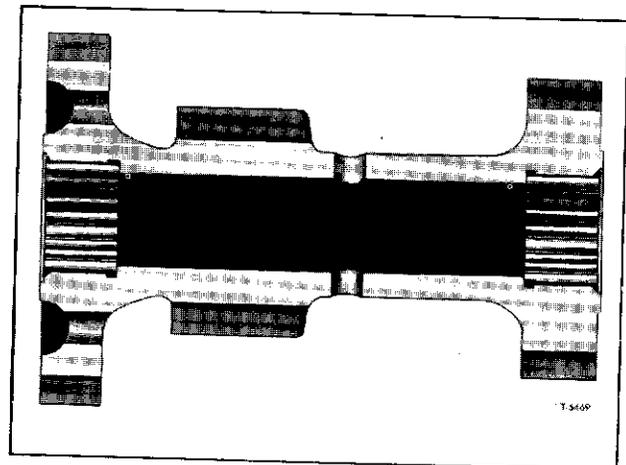
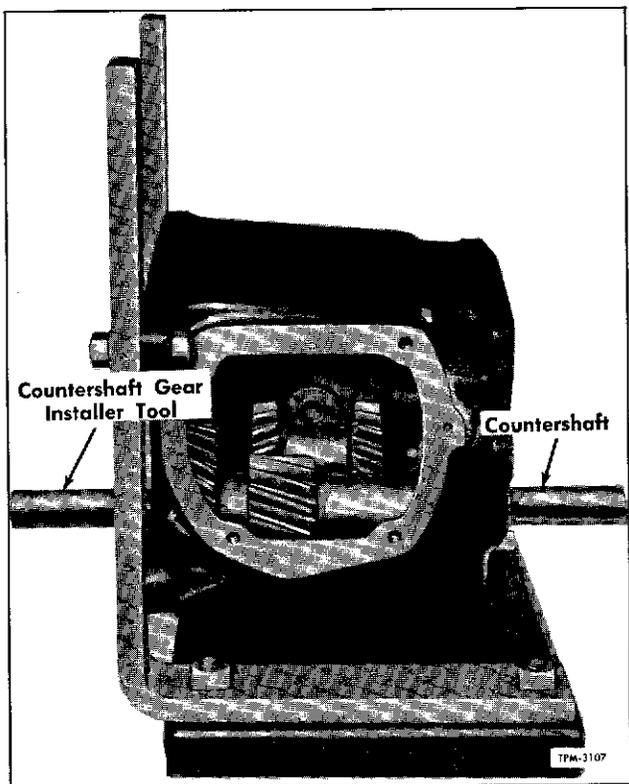

Figure 13—Roller Bearing Countergear
Figure 14—Installing Countershaft and Gear
1. Apply clean heavy grease in counterbore at each end of countershaft gear (37); then arrange 25 bearing rollers (36) in each counterbore. The grease should hold the rollers in place while installing (fig. 13).
2. Insert the countershaft and bearing assembly tool (J-1617) in the countergear (37).
3. Apply grease to countergear thrust washers (35) and place one at each end of the countergear.
5. Lubricate and insert the countershaft (plain end toward front) in rear of case, pushing the assembly tool out of front of case (fig. 14).